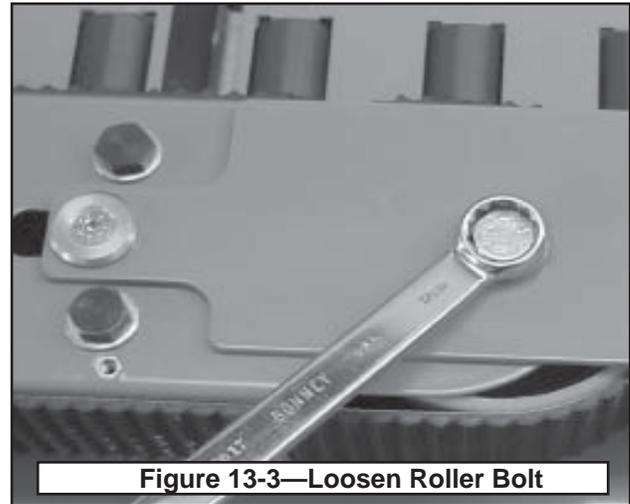

Figure 13-3—Loosen Roller Bolt
1. Using a 17mm hex wrench, loosen (counter-clockwise) but do not remove the bolt as shown in **Figure 13-3**.